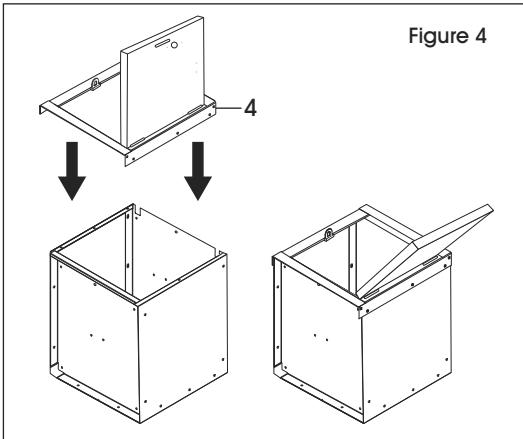

Figure 4
5. Place door frame assembly (4) over the locker body. Attach to top and bottom panels using two nuts and bolts. Secure to sides using six nuts and bolts. (See Figure 4)